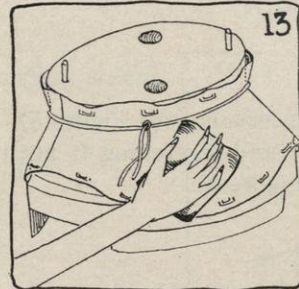

FIG. 13.
- (3) Heat the luring pad on the luring stove, or hot plate, or upturned iron (see Figure 13 of Job 2 page 10).
- (4) Press the brim with this hot luring pad, by going around and around the block, starting at the edge and working toward the headsize (see Figure 13).